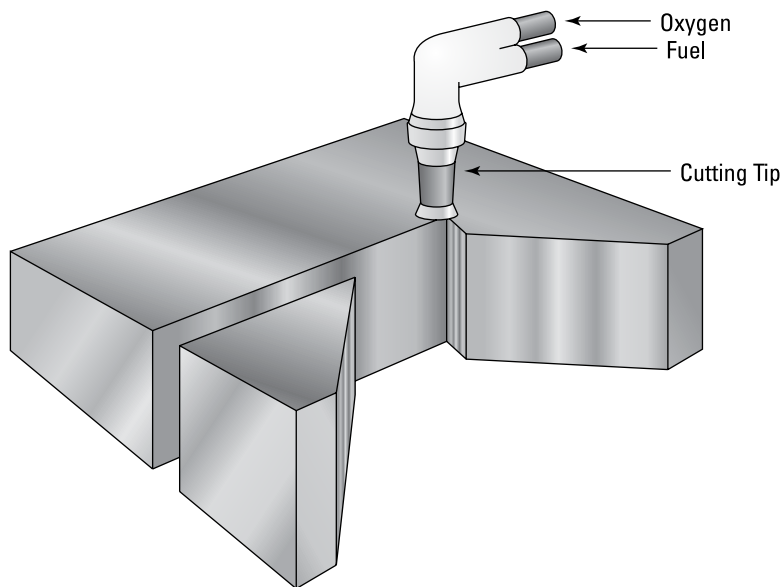

FIGURE 12-5:
- 8. To start cutting, hold the torch at a 90-degree angle to the surface of the plate, with the inner cone of the flame about 1/16 inch away from the surface of the plate as shown in Figure 12-5.**